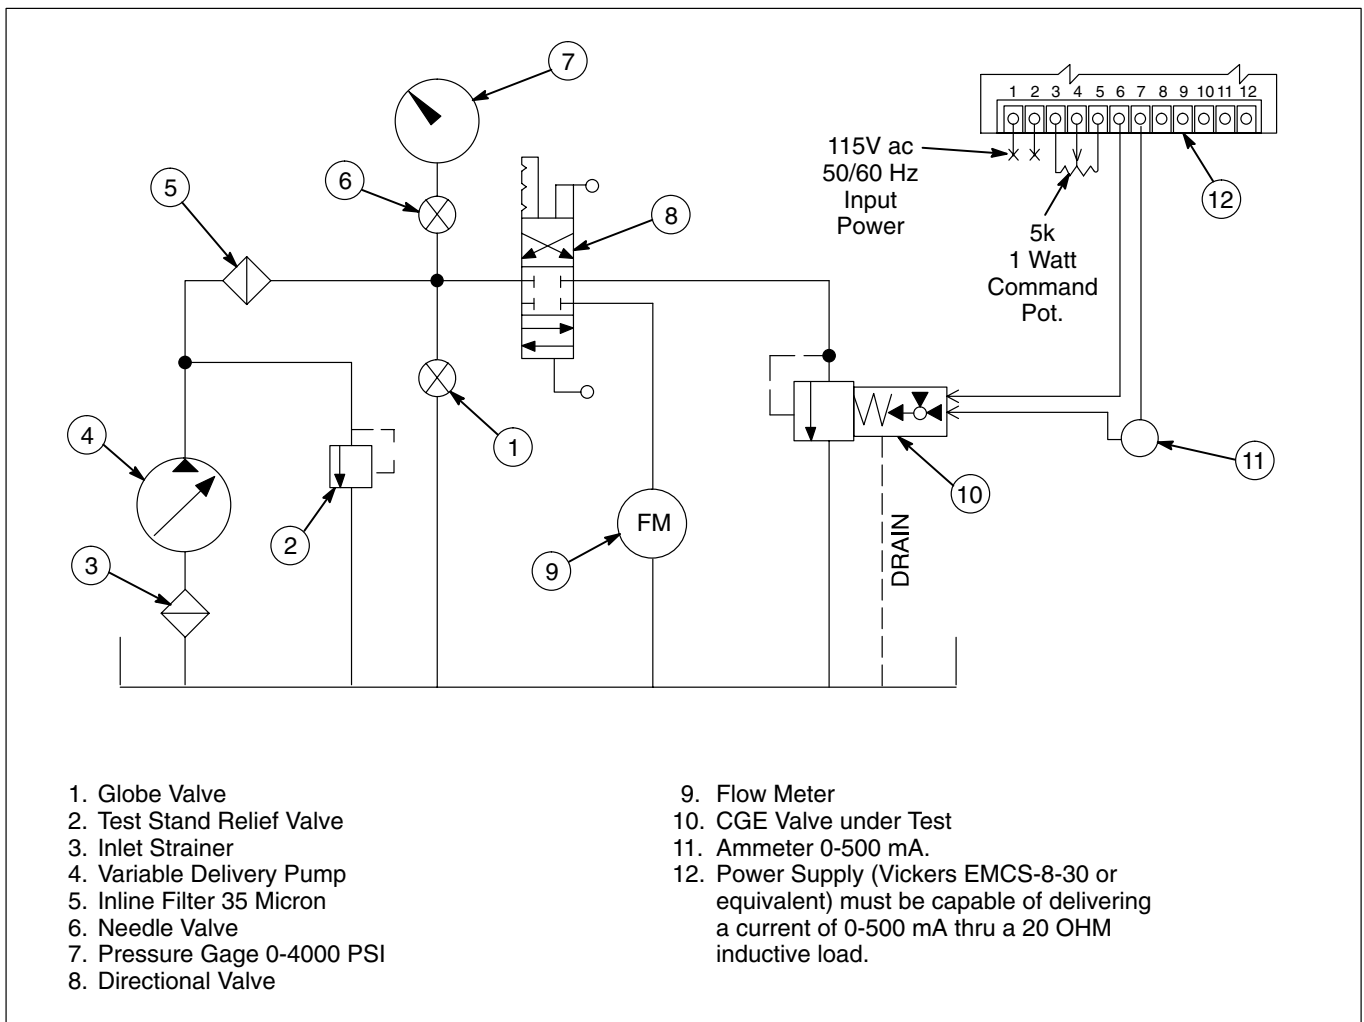

Figure 8. Hydraulic Test Circuit for CGE Valve.
A sample hydraulic and electrical circuit is shown in Figure 8. Modify an existing test stand or obtain necessary components to assemble the test circuit.
2. Connect valve to the test circuit and attach power supply (12, Figure 8). The connections can be made without regard to polarity.
4. Turn power supply current control knob to zero (0).
In the following step, if milliammeter (11, Figure 8) reads in reverse, reverse the meter connecting wires.
6. Switch directional valve (8, Figure 8) to allow flow through flow meter and adjust flow rate for valve under test. (Flow rates tabulated in paragraph VII.A. Test Conditions).
7. Adjust relief valve (2, Figure 8) to minimum pressure and open globe valve (1)
8. Switch directional valve to center blocked condition. Gradually close globe valve (1, Figure 8) and adjust relief valve (2) until pressure reading on gage (7) is 3750 PSI. Globe valve must be completely closed at completion of this step.
Needle valve (6, Figure 8) is used as a snubber for gage (7).
1. Switch directional valve to divert flow through the valve under test (10, Figure 8). Turn relief valve adjustment screw (41, Figure 3) all the way in. Pressure should be within range "A", perform the following adjustment procedure.
To prevent personal injury, remove all power from the hydraulic system or divert all system flow to the reservoir through flow meter (9, Figure 8) when work is performed to the valve under test.
Add or remove shims to bring pressure shown on gage (7, Figure 8) within range "A" of table 4. Use the 0.025 inch thick shim, (44, Figure 3), for a 100 PSI change.
Add or remove shims to bring pressure shown on gage (7, Figure 8) within range "A" of table 4. Use the 0.025 inch thick shim, (44, Figure 3), for a 230 PSI change and the 0.250 thick shim for a 700 PSI change.
3. Turn relief valve adjustment screw to pressure "B" shown in Table 4. Check for porosity and external leaks. Drop pressure to valve "C" with globe valve 1, (Figure 8), and check for leakage from discharge port, not to exceed "D".
5. Switch directional valve (8, Figure 8) to divert flow through flow meter.
1. Switch directional valve (8, Figure 8) to divert flow to the valve under test (10, Figure 8).
2. Make sure dither is off (dither control fully counter-clockwise). Increase current to the valve under test until rated pressure is obtained. The current at this time should be 475 to 400 milliamperes for the 3000 PSI models and between 465 and 500 for the 1000 PSI models. If the current is not within this range, remove current, shift directional valve (9, Figure 8) to direct oil to the flow meter and remove pilot valve cover (4, Figure 3). If the current reading is low, add shims (11, Figure 3) as required. If current reading is high, remove shims as needed. Each shim will change the pressure setting approximately 25 PSI on 1000 PSI models and 150 PSI on 300 PSI models.